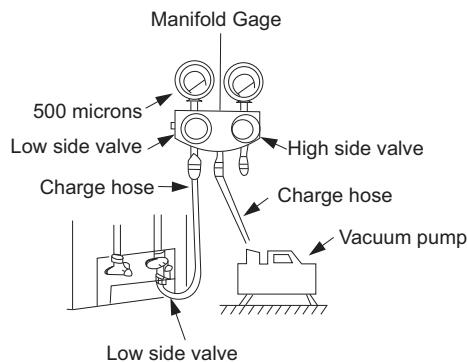

Fig. 10 – Manifold
- 3 Fully open the low side of manifold gage (see Fig. 10).